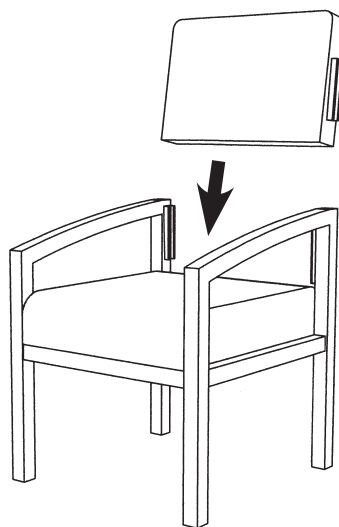

Figure 3
5. Stand the chair upright and slide the back cushion between the leg frames, as shown in figure 3. Use care that the wedges on both sides are properly aligned and connected simultaneously. Do not attempt to insert one side ahead of the other. Keep these wedge connections loose for now.